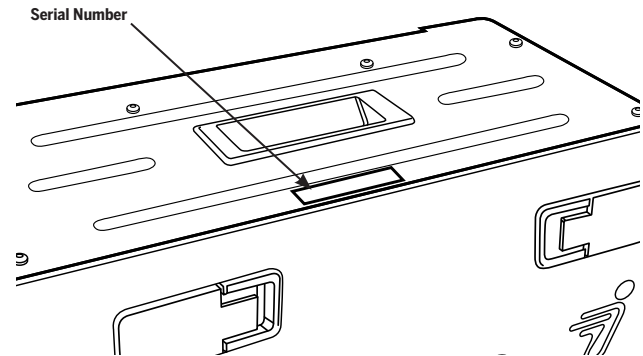

Figure 7: Battery Module Serial Number Location
2. Locate the 12-digit Battery Module serial number (**Figure 7**).